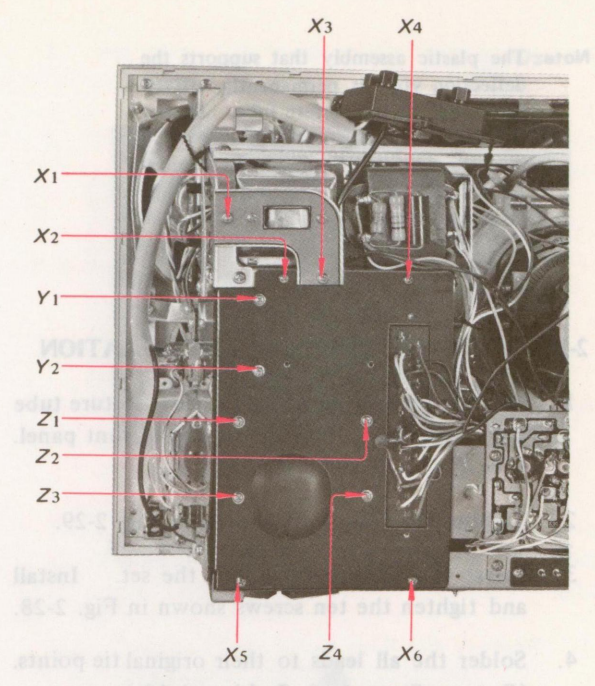

Fig. 2-36. Screws for removal of the rear cover, horizontal output transformer and flyback transformer
- Remove the six screws labeled X1-6 in Fig. 2-36.
- Remove the two screws labeled Y1-2 in Fig. 2-36.
- Remove the four screws labeled Z1-4 in Fig. 2-36.